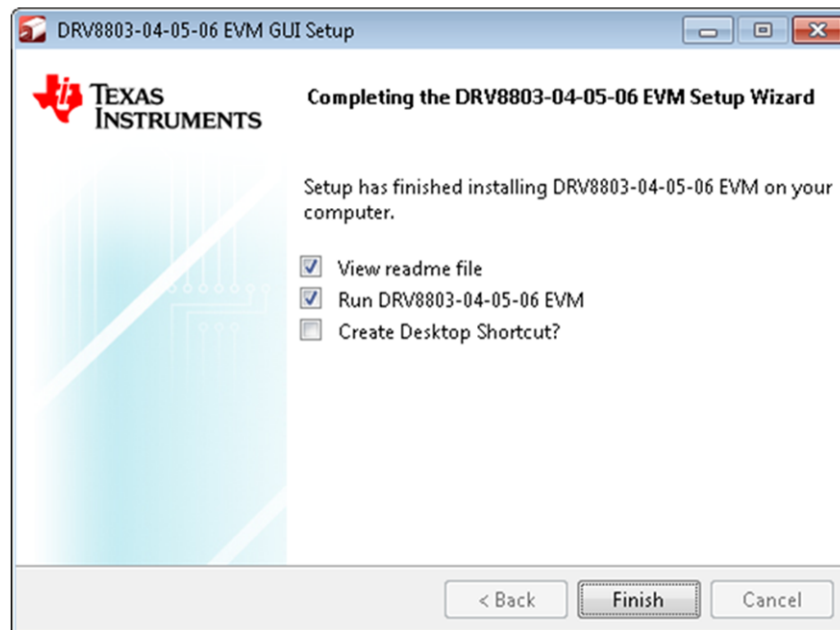

Figure 22. Installation Complete
19. Figure 22 appears denoting the completion of DRV8803/04/05/06 EVM GUI Installation. Click **Finish**.